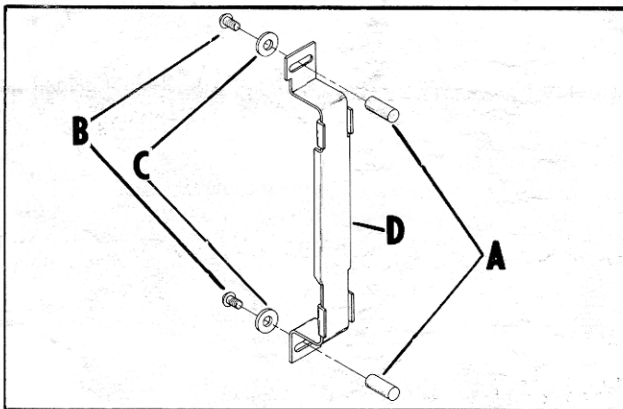

Fig. 26
1. Assemble the round guides (A) to the sanding platen (D) using the two screws (B) and washers (C), as shown in Fig. 26.